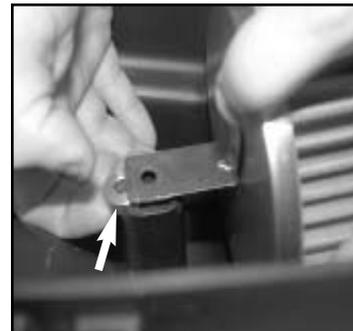

Fig. 2
5. Install the provided spacer between the stand-off in the air box and the bracket of the air filter. (Fig. 2)